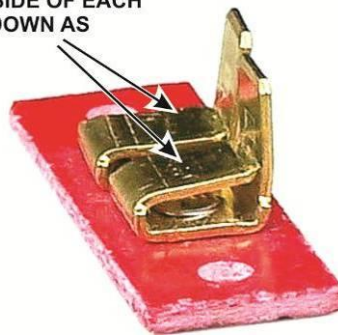

Figure 17. Preparing the Terminal Strip Board.
- Locate the terminal strip board and the flat terminal strip insulator. If not already done, bend down one side of each terminal as shown in Figure 17.